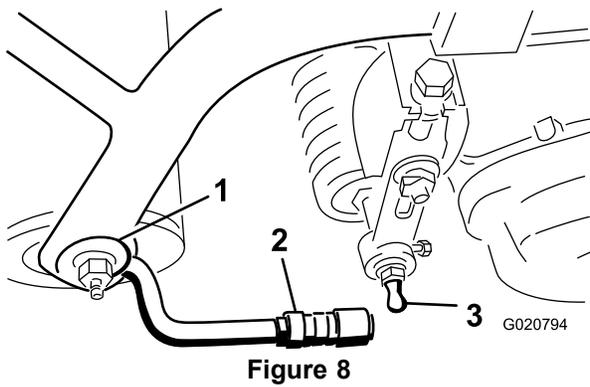

Figure 8
- Slide the sleeve back on the ball joint receiver and hook the receiver onto the cutting unit ball stud. Release the sleeve so it slides over the stud and locks the assemblies together (Figure 8).